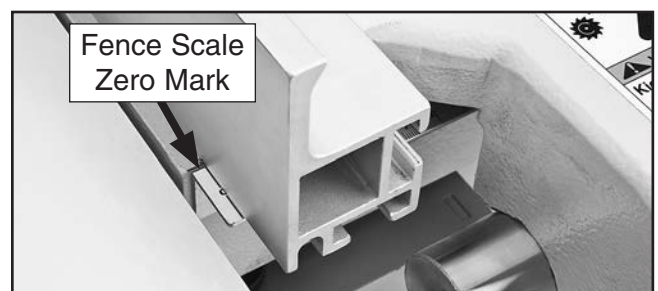

Figure 166. Rip fence scale zero mark.
3. Observe reading on scale underneath rip fence (see **Figure 166** for an example).